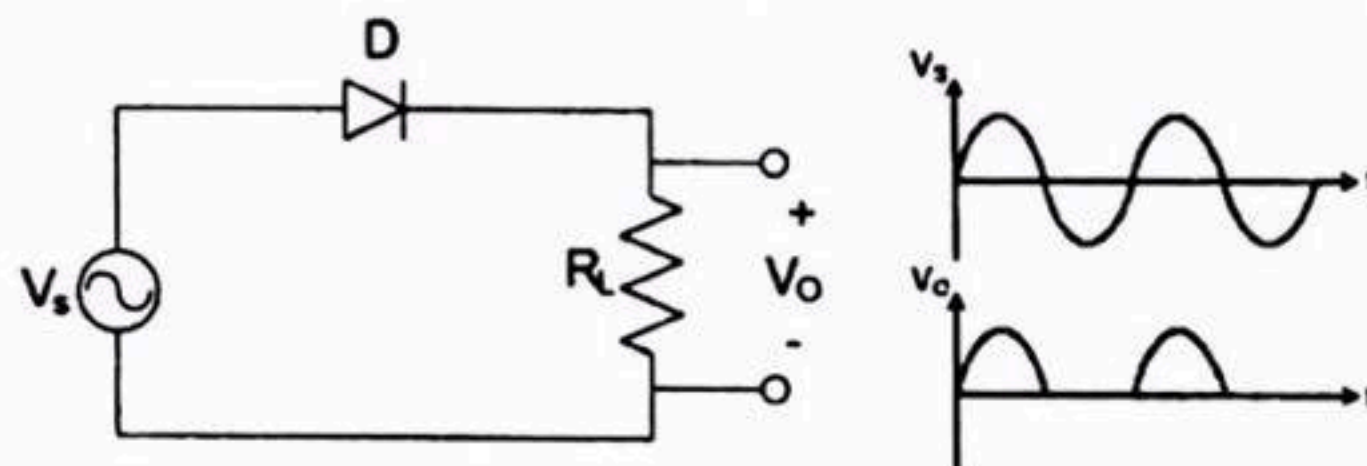

Figure 2.1: Half Wave Rectifier.
**Half - Wave Rectifier:** Half-wave rectifier can be built by using a single diode. The circuit diagram and the wave shapes of the input and output voltage of half wave rectifier are shown bellow (figure 2.1) -